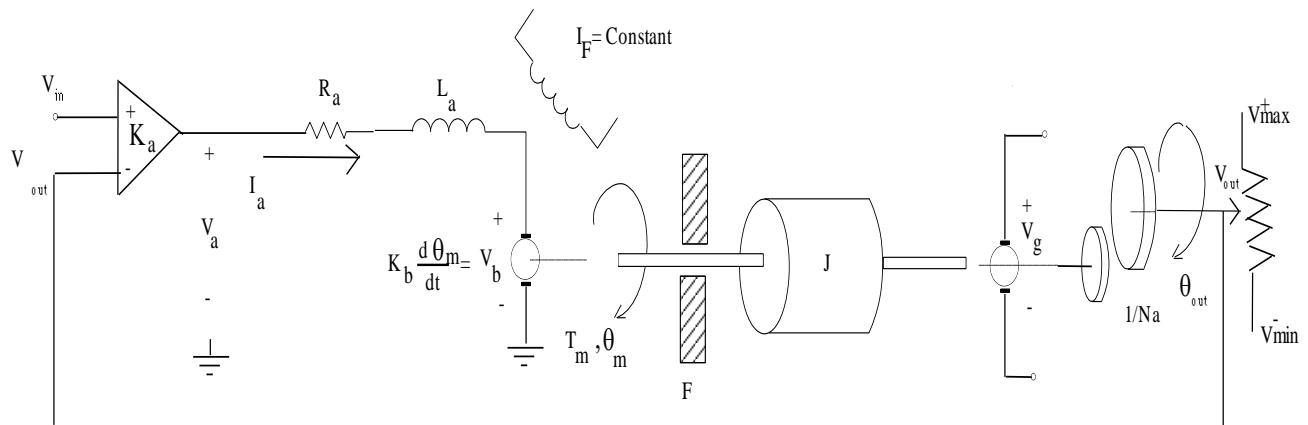

Figure 1. Schematic of MOTOMATIC DC servo motor system.
2. The schematic for the closed-loop unity feedback MOTOMATIC DC servo for which you found the step response is shown in **Figure 1**. Note how the output voltage, V_{out} , is fed-back to form an error (difference) signal with the system input, V_{in} .